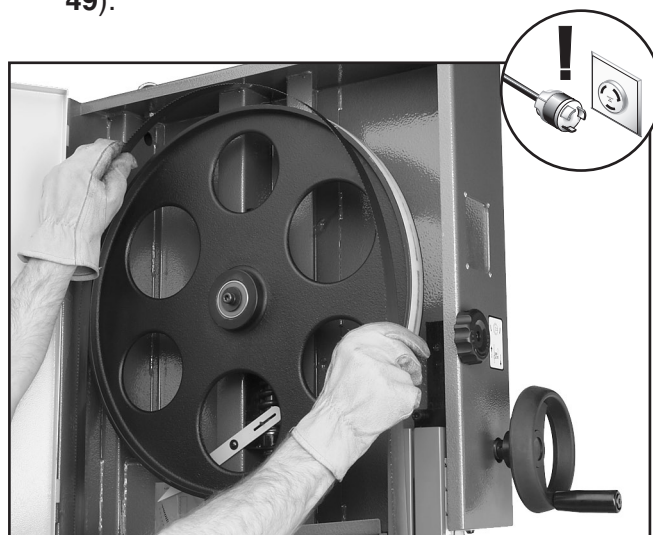

Figure 49. Typical example of placing blade on the wheels.
2. Slip the blade through the guides, and mount it on the upper and lower wheels (**Figure 49**).